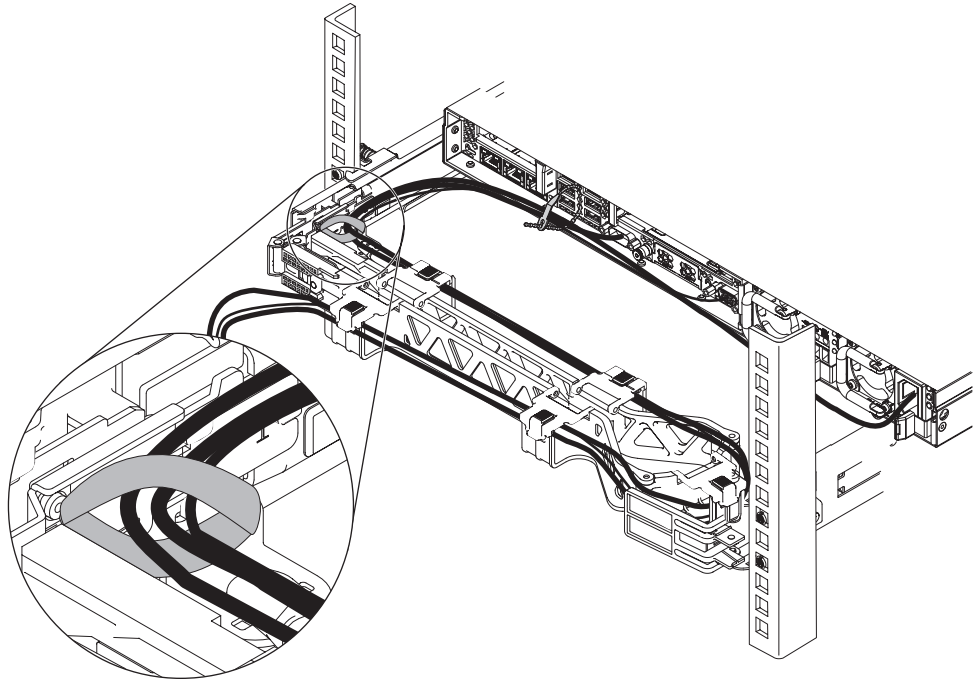

Figure 39. Securing the cables with hook-and-loop fastener strap
9. Secure the cables with the hook-and-loop fastener strap, as shown in Figure 39 on page 49.